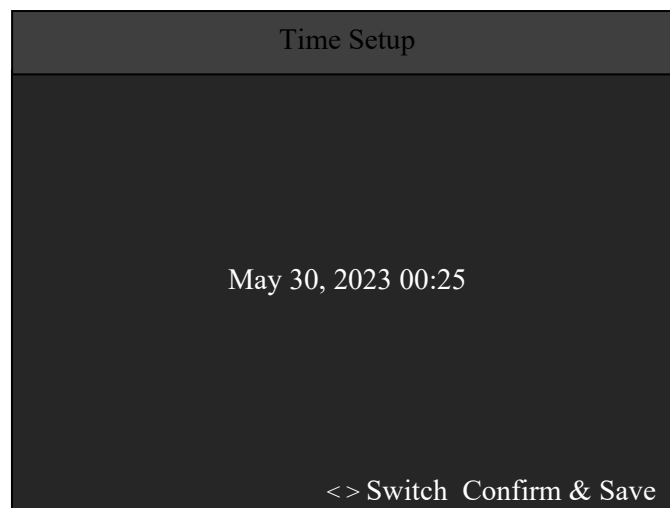

Fig. 3-16 Time setup
In user setup interface, press number key 1 or move the cursor to 1, then press "√" key to go into time setup; time setup can be used to modify current time of control panel; after selecting, open time setup interface, input year, month, day, hour and minute by number key and then press "≡" to save and adjust current time, as shown in Fig. 3-16.